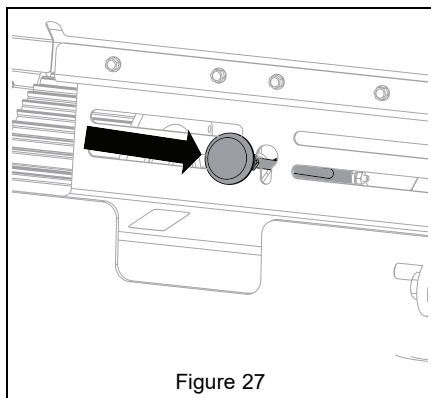

Figure 27
3. Push bypass handle and secure to notch. See Figure 27.